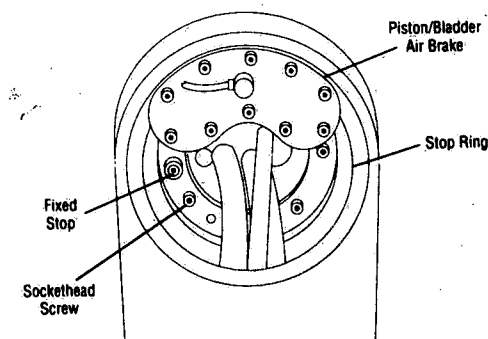

Figure 3-4. Rotational Stop "A"
3. Remove eight sockethead screws from stop ring (see Figure 3-4).
4. Manually position suspension arm to one end of the 270° range of rotation. Rotate stop ring until fixed stop is touching the piston/bladder air brake (see Figure 3-4).